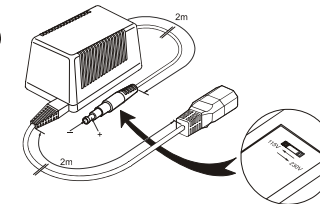

Fig. 2. PM8907
- PM8907/808 Power Adapter (Fig. 2)
Before you connect the PM8907/808 to the local line, first check the preselected voltage setting on this unit. You can find the voltage selector switch on the bottom of the PM8907/808. If necessary, select the corresponding line voltage with the slide switch and ensure that the proper voltage is visible in the window of the slide selector. (see Fig. 2.)